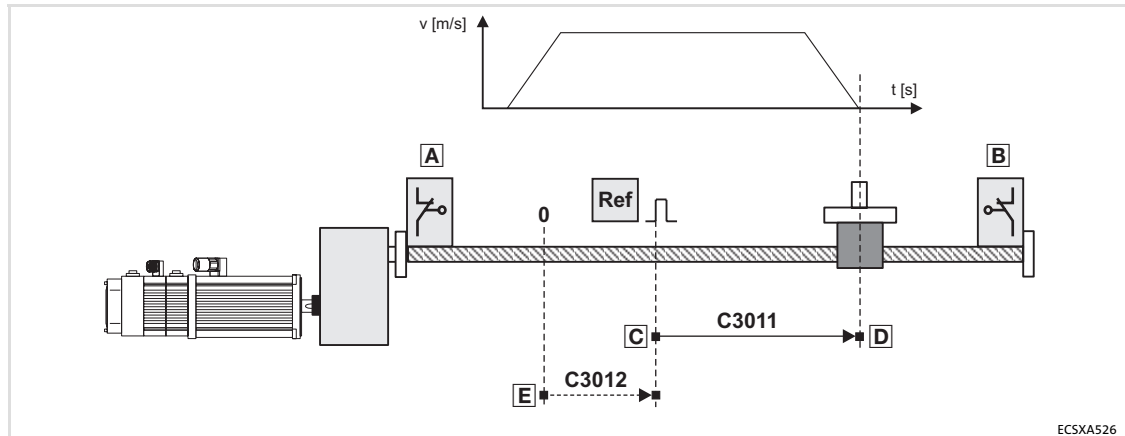

Fig.6-28 Shifting of the zero position
2. a) C3012 = 50000 [inc] (compare Fig.6-28):